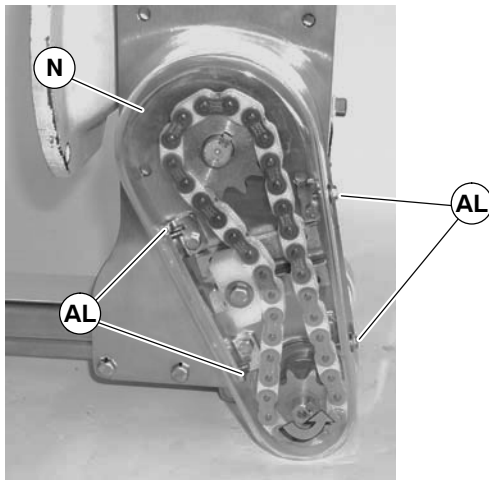

Figure 28
- Loosen four screws (AL of Figure 28) and remove cover (N).
NOTE: Do not over-tighten screws (AL of Figure 28).
8. Install cover (N of Figure 28) and tighten four screws (AL) to 35 in-lb (4 Nm).